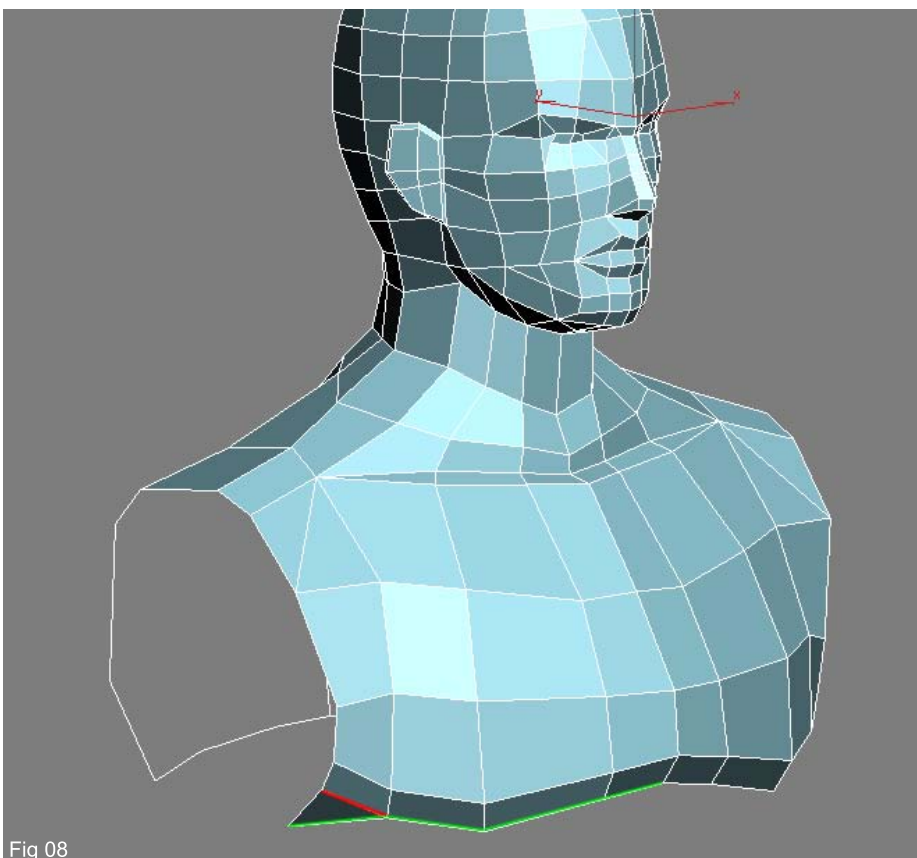

Fig 08
8. Back to the front now ! Grab that bottom row of edges under the chest and copy these downwards once more but this time pull them inward to form the lower part of the chest (Fig08). Also add in a small cut indicated by the red line.